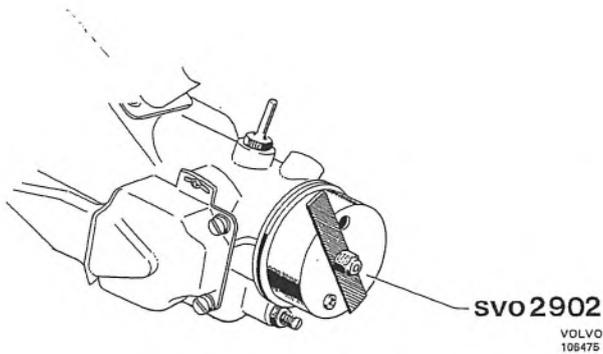

Fig. 2-105. Cover for ignition setting
3. Start the engine. Fit the plastic cover 2902, as shown in Fig. 2-105, and adjust down the speed to 10–13.3 r/s (600–800 r/m) by moving the bar across the hole in the plastic cover.